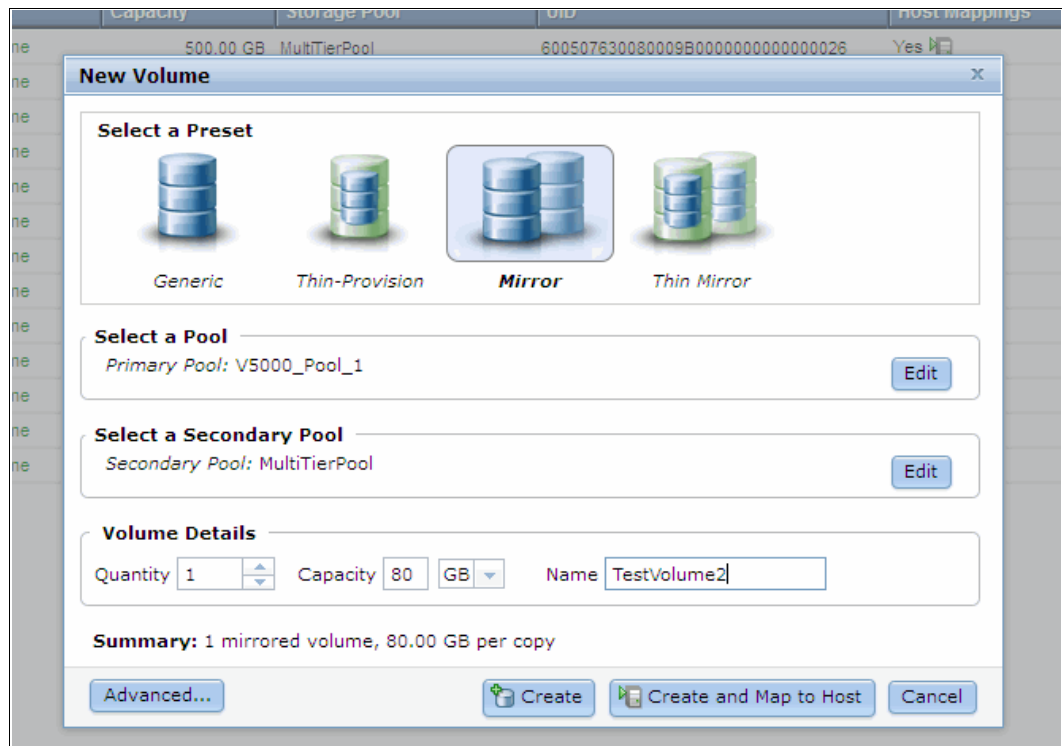

Figure 5-14 Select a secondary pool, volume name, and size
3. Select the secondary pool by clicking it. Enter a volume name and the required size, as shown in Figure 5-14.
Click **OK** to return to the New Volume window, as shown in Figure 5-14 on page 171.